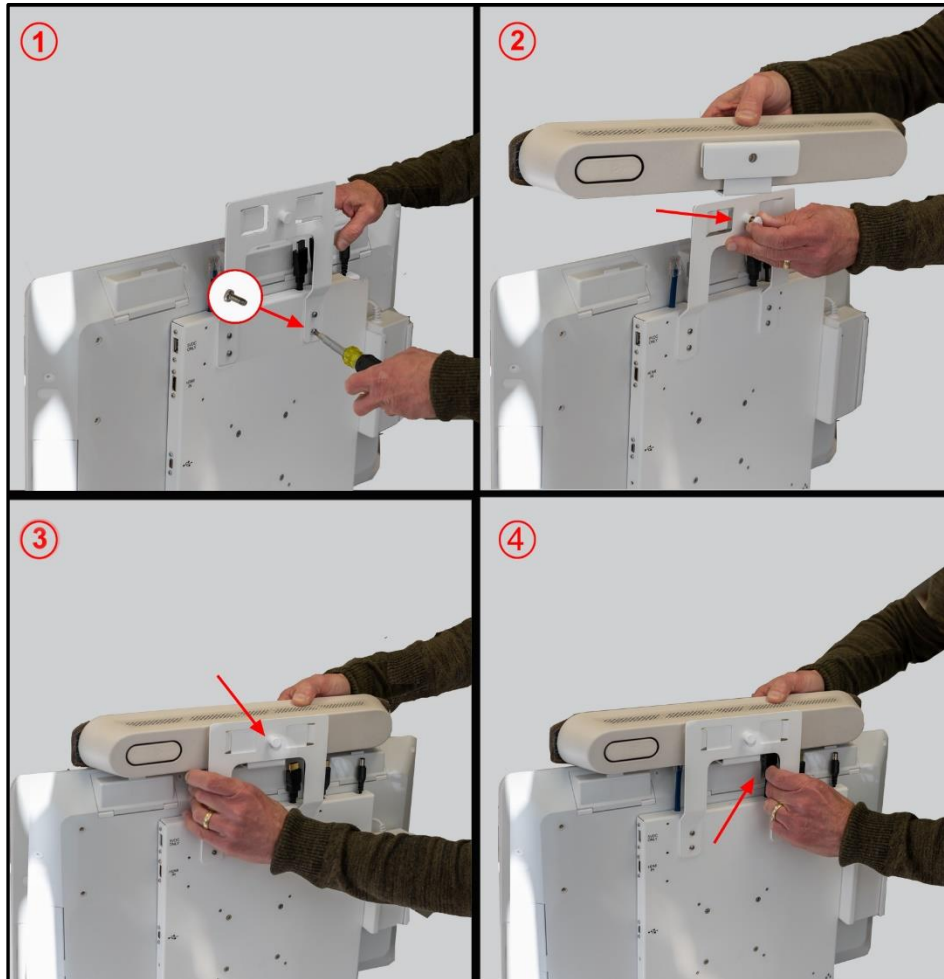

Figure 6. Attaching Video System to Display
- Figure 6. Attaching Video System to Display 13